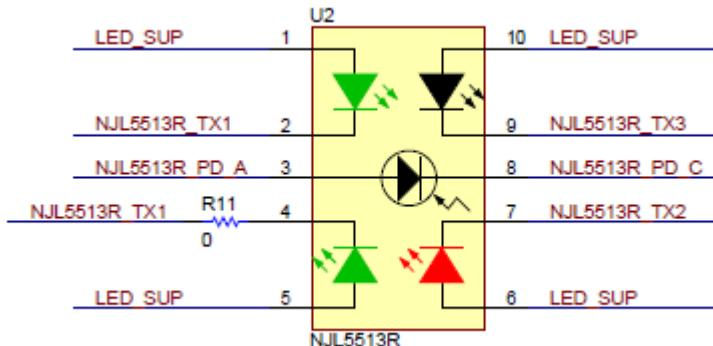

Figure 2. NJRC NJL5513R Sensor Board LED Connections
- (a) The AFE4404 sensor board has two optical sensor modules: NJRC NJL5513R and OSRAM SFH7050. The NJRC sensor has two green LEDs and 1 red LED that are connected in parallel. Note that when in parallel, both LEDs represent LED1 and the red LED represents LED2. The OSRAM sensor has one infrared, one red, and one green LED. This sensor is configured in push-pull (common anode) mode. If the NJRC sensor is to be used, then make sure resistors R2, R4, R6, R8, and R10 are installed. If the OSRAM sensor is to be used, then make sure resistors R1, R3, R5, R7, and R9 are installed. By default, the NJRC sensor is used as shown in Figure 2. The sensor board also has an option to use the BMA280, which is an accelerometer. This is uninstalled by default.